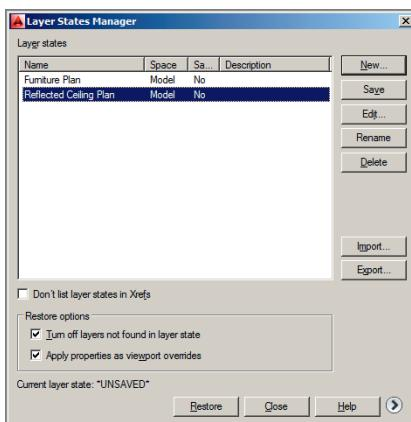

FIGURE 14.21 Restoring a layer state in floating model space
- Type **LAYERSTATE**, and press Enter. Select the Reflected Ceiling Plan layer state, and then click the Restore button (see Figure 14.21).